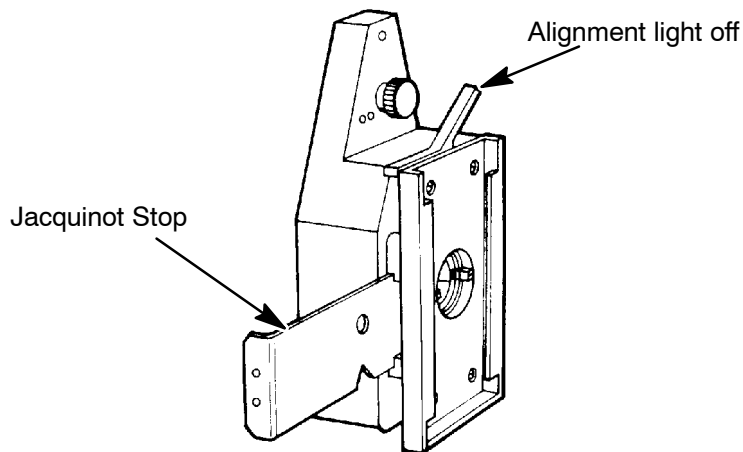

Figure 2-27 Inserting a J-Stop
When you use the Spectrum RXI at resolutions of 1 and 2 cm^{-1} , you need to insert a J-stop into the sample slide if you are interested in bands above 2000 cm^{-1} . If you are only interested in bands between 2000 and 400 cm^{-1} , you need not use a J-stop; this does not degrade the resolution and maintains a high throughput, and therefore a good signal-to-noise ratio. To identify the appropriate J-stop, the 1 cm^{-1} has one hole in the bent end, and the 2 cm^{-1} J-stop has two (see Figure 2-27).
- 1 Hold the J-stop by its bent end, with the notched edge down (Figure 2-27).
You can use the sample slide as an alignment device for accessories, using the lever shown in Figure 2-27 to switch the alignment light on and off. Make sure that you switch it off completely before scanning. To align an accessory: